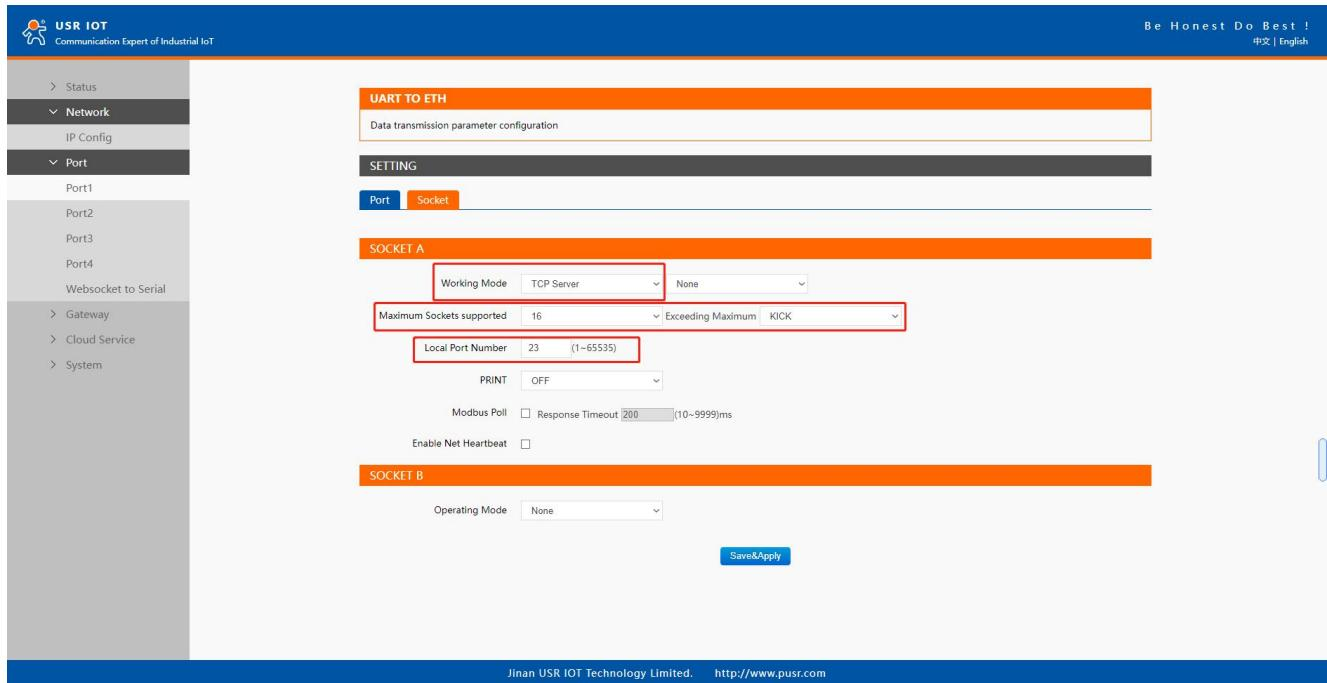

Fig. 46 TCP server work mode
The default operation mode of USR-N5X0 is the TCP Server mode. Fig.46 shows an example of configuration setting for TCP Server working mode under the Port1 socket tab. You can configure other serial ports in the same way. There are additional connection settings that can be configured as shown in Fig.46.
1. Click on the "Port1" tab on the menu frame on the left side of Web UI to go to Port1 page as shown in Fig.46.